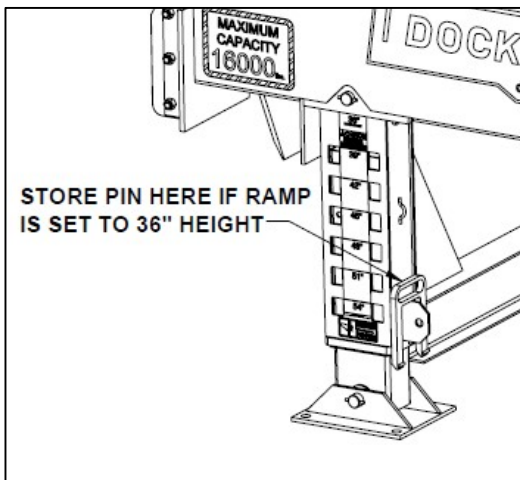

Figure 7. Storing the Pin
- a. If a 36" dock height is desired the horseshoe pins must be left out (Figure 7).